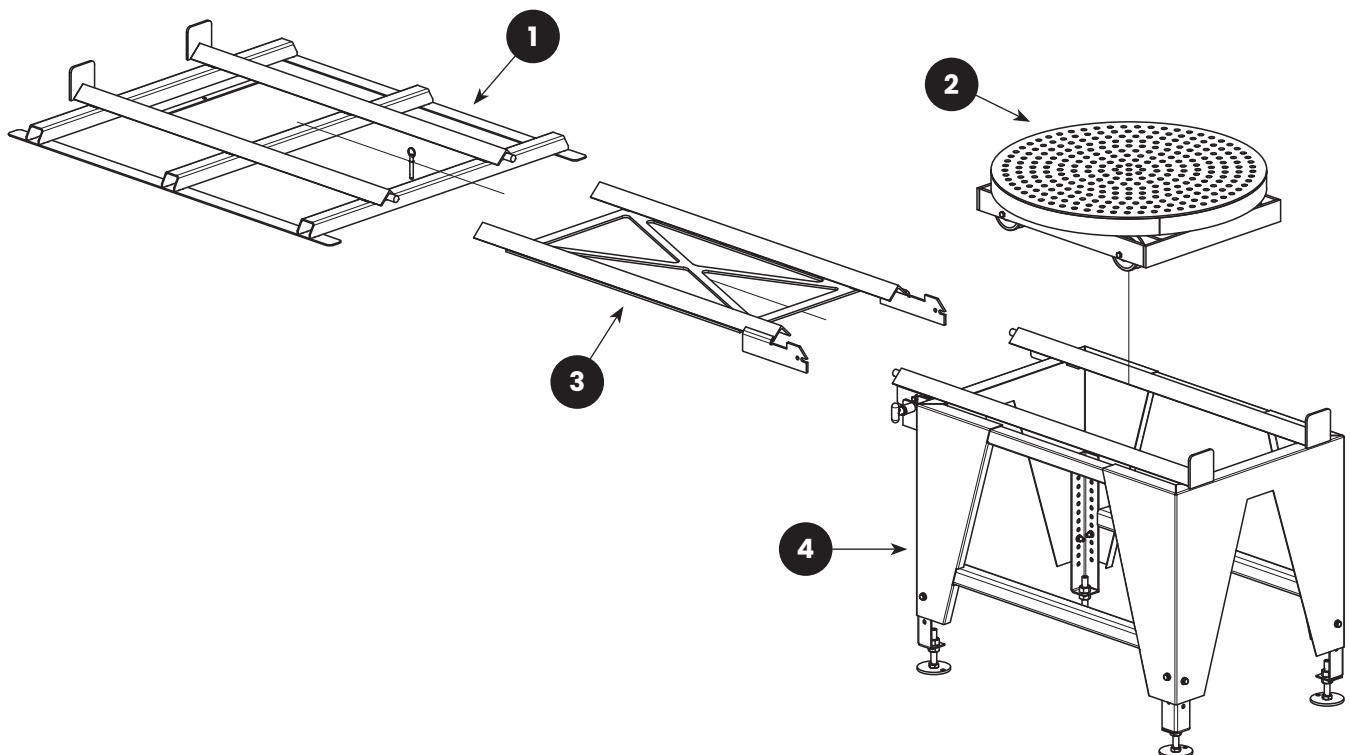

**FIGURE 2:** (1) Inside Track; (2) Turntable & Workcar; (3) Hinged Track Extension; (4) Outside Track
**2.3.1** | Components of the turntable and track assembly are shown in **Figure 2**. The assembly consists of: